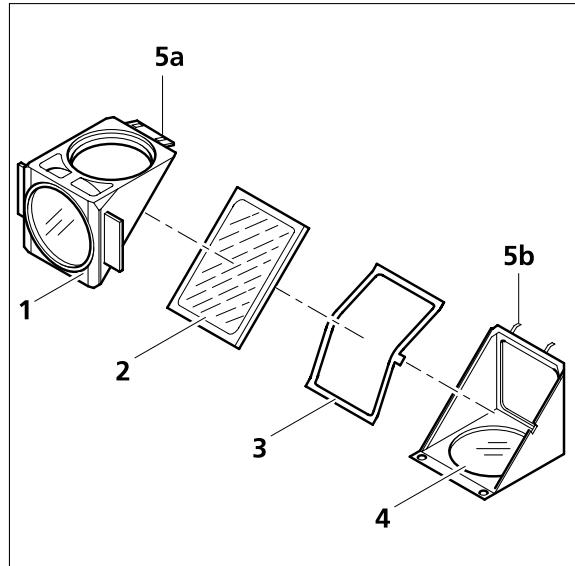

Fig. 3-45 Changing the color filter
- Now tilt the **excitation** part, which lies on top (Fig. 3-45/1), upward and lift the **emission** part (Fig. 3-45/4) out of the holding fixtures (Fig. 3-45/5b).
- Remove color splitter (Fig. 3-45/2) and spring box (Fig. 3-45/3) from the bottom part of the module.
- Remove the old color splitter and put the new splitter with the reflecting coating facing up carefully on the spring box (Fig. 3-45/3). Put both pieces together into the bottom part of the module. Make sure that the side latch of the spring box is in the appropriate recess of the bottom part of the module.
- Put the **excitation** part of the module (Fig. 3-45/1) on the **emission** part (Fig. 3-45/4) – holding fixtures (Fig. 3-45/5b) and eyelets (Fig. 3-45/5a) latch together. Hold both parts together and turn them back into mounting position.